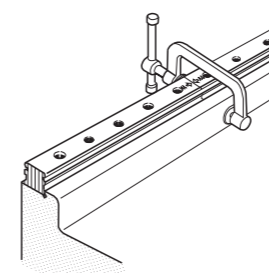

Fig. 43 Fixing of butt-jointing track rails
① Joint the track rails end-to-end in accordance with the match marks, and temporarily fix the rails onto the bed. The butt-jointing interchangeable track rail of interchangeable specification does not require matching butt-jointing rail ends, because the rail is prepared for free combination.
② Fit the reference mounting surfaces of the track rails onto the reference mounting surface of the bed, then fix all track rails one by one. While performing this procedure, tightly press the reference mounting surface of each track rail with a small vise, etc. against the reference mounting surface of the bed at the butt-jointing position so that the track rails at the butt-jointing position are connected without a step. (See Fig. 43.)